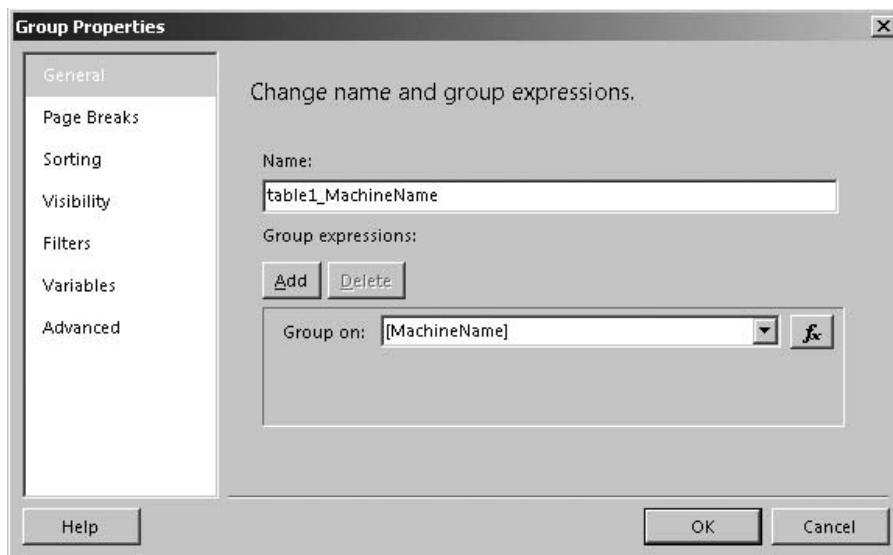

Figure 16-21 The General page of the Group Properties dialog box
56. Select Group Properties from the Row Groups menu. The Group Properties dialog box appears, as shown in Figure 16-21. This dialog box defines the properties of a row grouping within the tablix. This group is grouping data based on the value of the MachineName field.